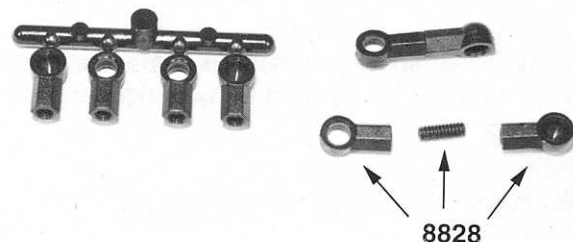
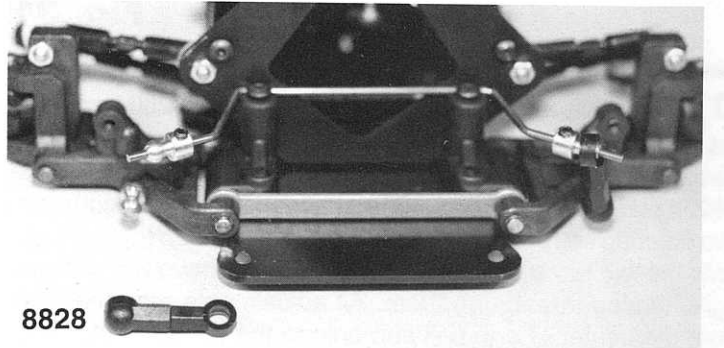

Fig. 35
Fig. 38
□ **Fig. 35** Go back to bag #8-3 and remove the parts tree containing the #8828 molded roll bar ball cups, and two #8828 4-40 x 5/16" socket set screws. If you look at the ball cups you will find two with an open cup and two that have a closed cup. Thread one open cup and one closed cup onto each of the 5/16" set screws. Do your best to thread them on equally and then make sure they go on until they bottom out against each other. This will now become the adjustable pivot link. Because of their small size you can use your .050" Allen wrench to thread one cup onto the set screw. After one is installed thread on the other one until it bottoms out.
5) (Fig. 38.) Now go back and pick up the #8828 adjustable pivot links (we assembled them in fig. 35) and snap the closed ball end cup onto the ball end of the front suspension arm, and **6)** the open ball end onto the roll bar pivot. **7)** After both adjustable links have been installed we will need to set the roll bar pivot position. Looking at the front end assembly from the front of the car, adjust the pivot balls so that both of the adjustable links are close to vertical. We want to make sure that the pivot balls are not binding but still remain close to vertical. **8)** Once they are lined up correctly and pivoting freely, tighten the set screws. **9)** Make sure that the spacing on both roll bar pivots is the same. If the spacing is not the same, the car's handling characteristics will be different for both right and left turns.